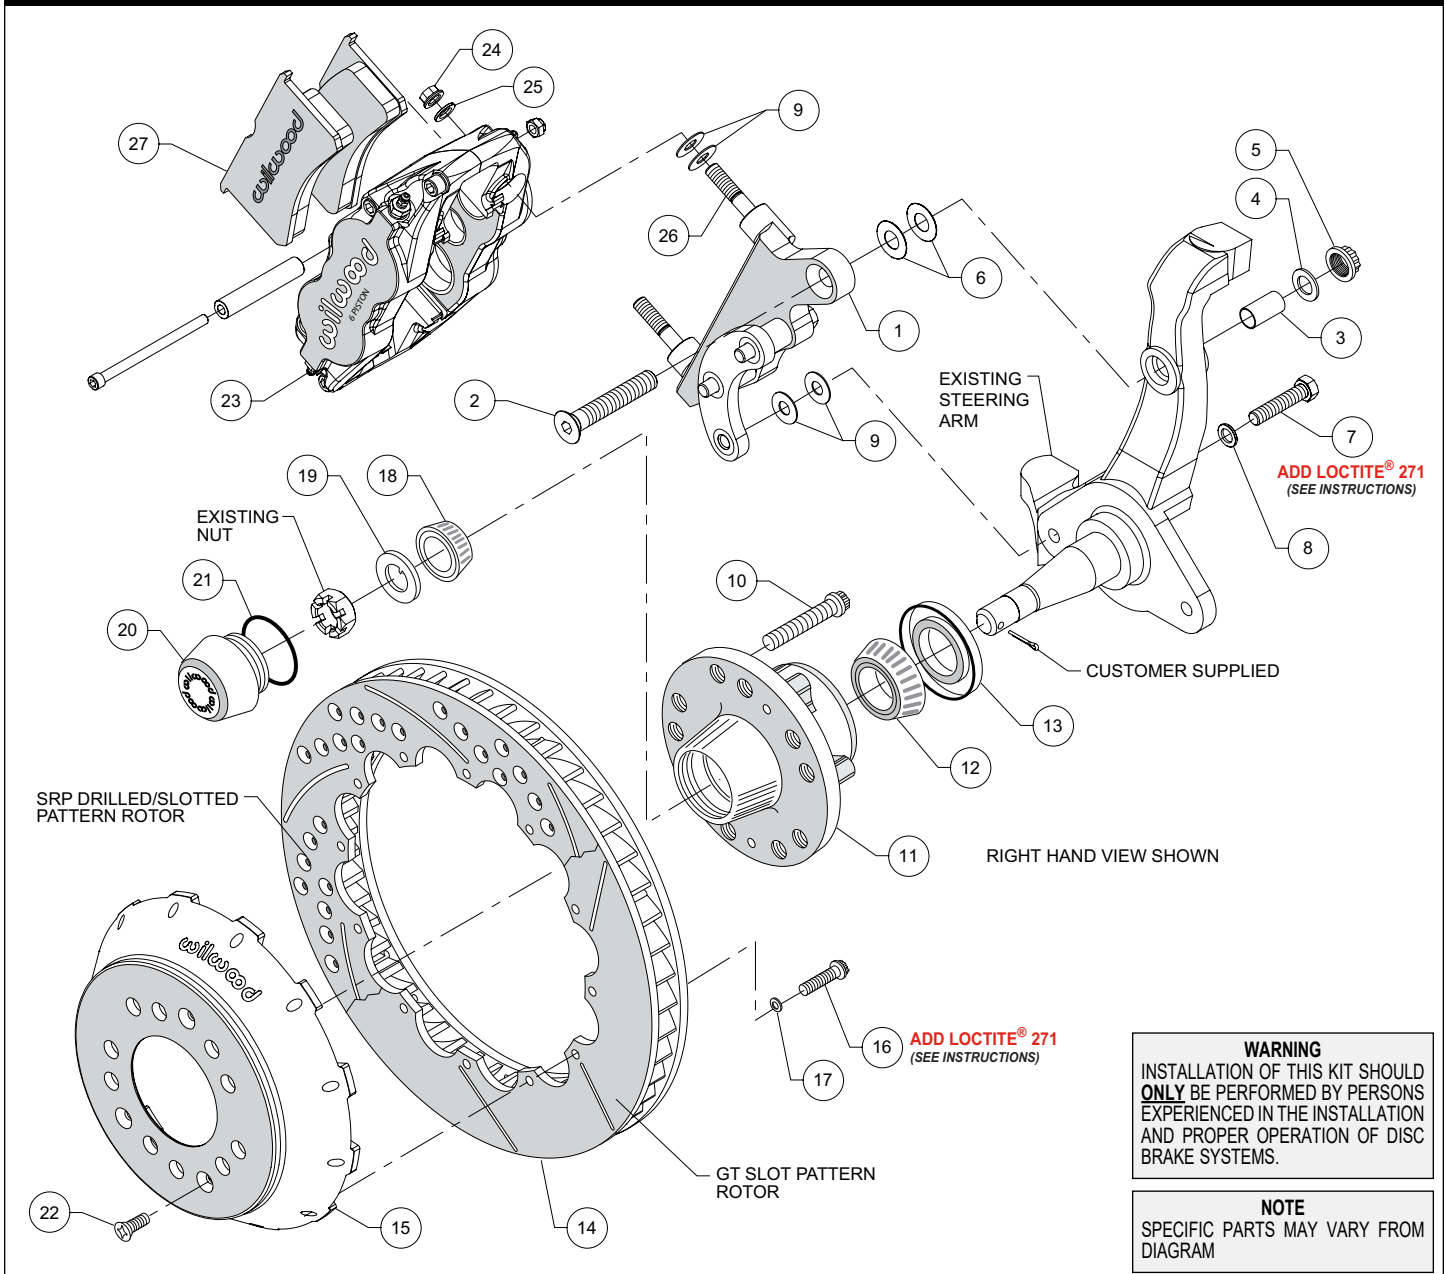
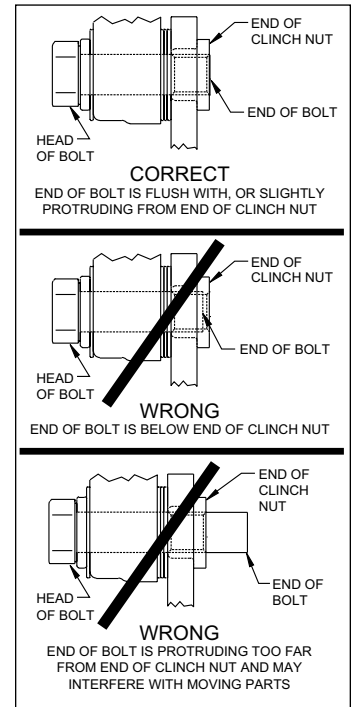

Figure 1. Typical Installation Configuration
Figure 4. Clinch Nut Engagement Diagram
Assembly Instructions (numbers in parenthesis refer to the parts list and Figure 1 on the preceding pages): **CAUTION:** All mounting bolts must fully engage clinch nuts. Be sure to check that all bolts are either flush or protruding through flanged side of clinch nut after shimming, Figure 4.
- The caliper bracket (1) should initially be installed with clean, dry threads on the mounting bolts. The bracket has been assembled at the factory for alignment purposes. Loosen the two bolts that secure the brackets together so that the bolts are hand tight only. This will enable the bracket assembly to be adjusted to accommodate various spindle tolerances during assembly. Insert sleeve (3) into top mounting hole on the spindle, Figure 1. Orient the bracket as shown in Figure 1 and install using bolt (2), washer (4), and locknut (5), in the upper hole, as shown in Figure 1 and Photo 1. Initially use two .032" thick shims (6) on the upper bolt between the bracket and spindle, Figure 1. Install bolt (7) and washer (8) in the lower hole, Figure 1. Initially use two .035" thick shims (9) between the bracket and spindle face. Temporarily tighten the mounting bolts, followed by the two bracket-to-bracket bolts. **NOTE:** The bracket must fit squarely against the mounting points on the spindle. Inspect for interference from casting irregularities, machining ridges, burrs, etc. Later, after the bracket and caliper alignment has been checked, the bolts will be secured using red *Loctite*® 271.
- Check that the bracket (1) is aligned parallel to the rotor (14), Photo 2, by assembling and installing the hub, hat, and rotor per the steps below. If not, parallel adjust by adding or subtracting shims (9) on the lower bolt between the spindle and bracket, Figure 1.
- Install wheel studs (10) into the hub (11), Photo 3. Torque to 77 ft-lb. **NOTE:** There are two five lug patterns in the hub (5 x 4.50 and 5 x 4.75). Ensure the correct hub stud pattern is being used to fit the wheel application.
- Pack the large inner bearing cone (12) with high temperature disc brake bearing grease (available from your local auto parts store) and install into the backside of the hub (11), Photo 4.
- Install the grease seal (13) by pressing into the backside of the hub (11), flush with the end of the hub, Photo 4.
- Orient the rotor (14) and the hat (15) as shown in Figure 1 and Photo 5. Attach rotor to hat using bolts (16) and washers (17). Apply red *Loctite*® 271 to the bolt threads and torque to 155 in-lbs using a criss-cross pattern. For an added measure of
- Pack the small outer bearing cone (18) with high temperature disc brake bearing grease and install into hub (11). Slide the hub assembly onto the spindle. Secure using spindle washer (19) and OEM spindle nut, Photo 6. Adjust bearings per OEM specifications. Install saved OEM nut lock (if any) and a new cotter pin (not included).
- Screw dust cap (20) into hub (11), Photo 7. Friction created by the o-ring (21) on the dust cap keeps it from unscrewing. **NOTE:** *The O.D. of the existing OEM spindle washer may be larger than the I.D. of the dust cap not allowing it to seat against the hub face. Therefore, use the spindle washer (19) supplied with the kit instead of the OEM washer.*
- Slide the hat/rotor assembly (14/15) onto the hub (11) taking care to align the small countersunk holes in the hat with the small threaded holes in the hub. **NOTE:** *The hat must fit flush against the hub face or excessive rotor run out may result.* Install three flat head screws (22) through the small holes in the hat, Photo 7, and torque to 85 **in-lb**.
- **NOTE:** *This kit contains distinct right and left hand calipers that must be mounted in a specific direction, as described below.* Initially place two .035" thick shims (9) on each stud between the caliper and the bracket, as shown in Figure 1 and Photo 8. Mount the caliper (23) onto the bracket (1) using lock nuts (24) and washers (25), Figure 1. Ensure that the caliper is mounted so the largest pistons are at the rotor exit end of the caliper, in relation to the direction of rotor rotation. Temporarily tighten the lock nuts and view the rotor through the top opening of the caliper. The rotor should be centered in the caliper, Photo 9. If not, adjust by adding or subtracting shims (6 upper bolt, and 9 lower bolt) between the spindle and the caliper bracket. Always add or subtract the same amount of shims on each of the two mounting bolts to keep the bracket parallel to the rotor. **NOTE:** *The end of the lower bolt must be flush with, or slightly protruding from, the head of the clinch nut, as shown in Figure 4.* If necessary place spare shims between washer (8) and spindle to achieve the proper clinch nut engagement.